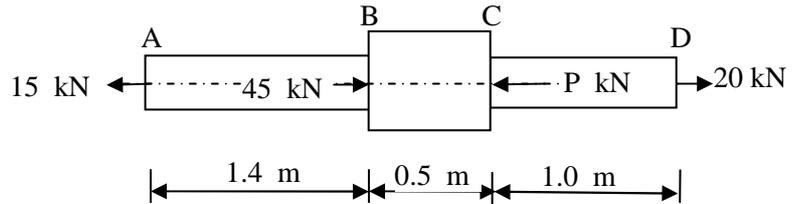

Fig. 2 Que. 1 (c)
- (c) A stepped bar ABCD is axially loaded as shown in **fig. 2**, is in equilibrium. Determine (i) magnitude of unknown force 'P' (ii) stresses in each part and (iii) total change in length of the bar. Details of each part of the bar is as follow: **07**